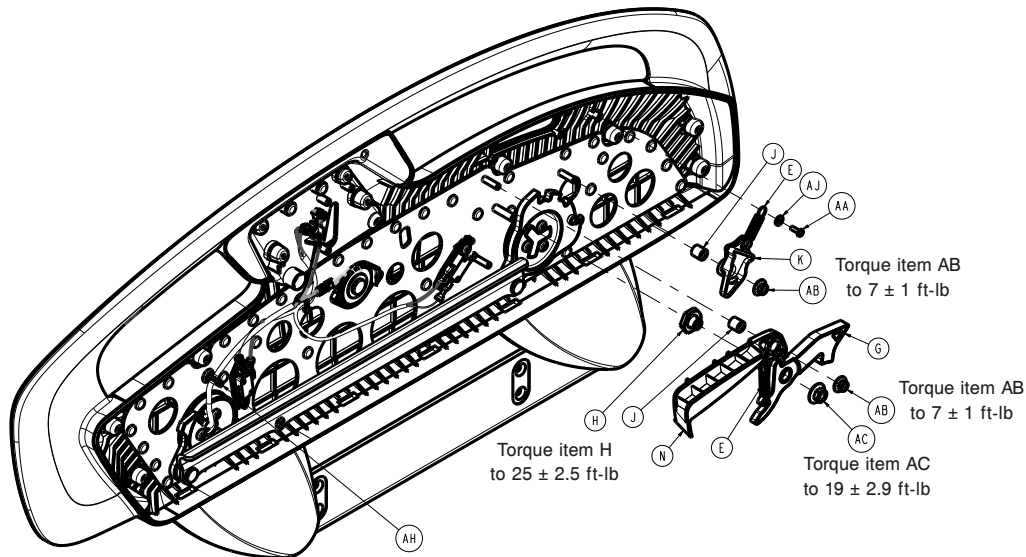

Figure 55 – Replacing the head siderail hoop
16. Using a ratchet and a 1/2" socket, remove the nut (AB) that secures the latch activation lever and latch pawl assembly (G) (Figure 55). Remove and save the activation lever and detent pawl (E).
17. Using a ratchet and a 9/16" socket, remove the nut (AC) that secures the siderail latch to the siderail hoop (Figure 55). Remove the latch.